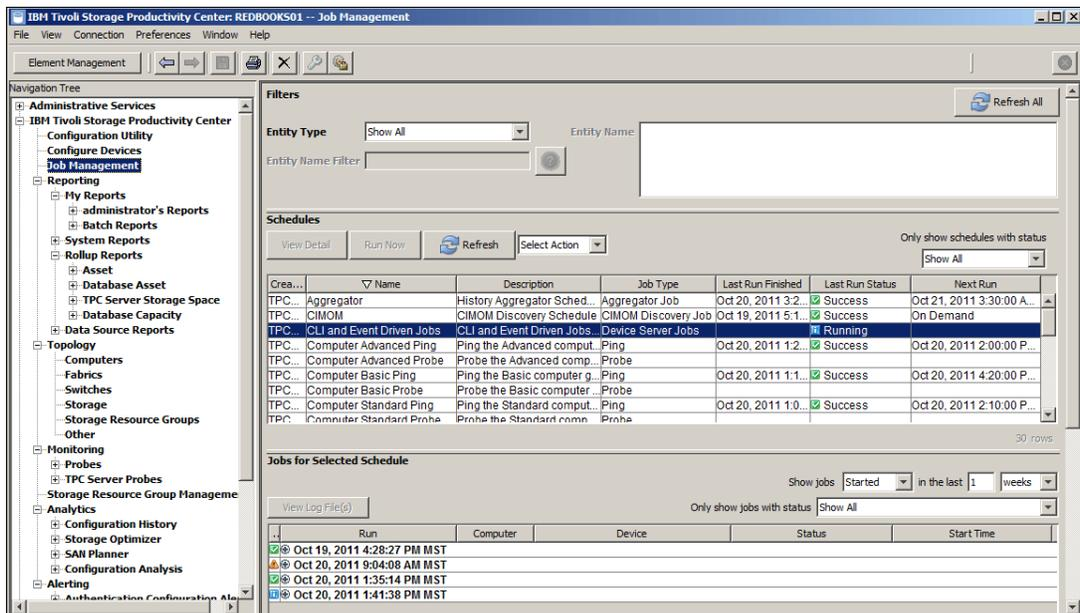

Figure 9-20 CLI and Event Driven Job Probe
- After the probe is submitted, a dialog box opens asking you to view the job history. If you click **Yes**, it takes you to Job Management panel of Tivoli Storage Productivity Center where you can check the job status (Figure 9-20):